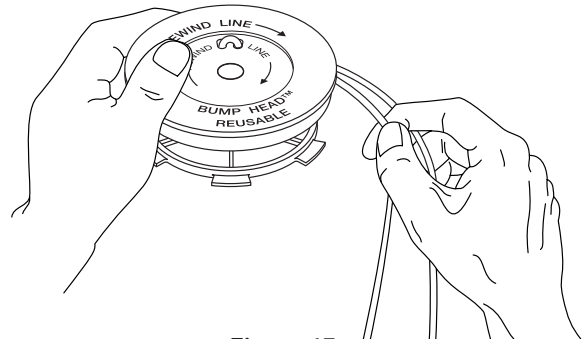

Figure 17
7. Wind the lines in tight even layers onto the reel. See Figure 17. Wind the line in the direction indicated on the inner reel. Place your index finger between the two lines to stop the lines from overlapping. Do not overlap the ends of the line. Proceed to step 11.